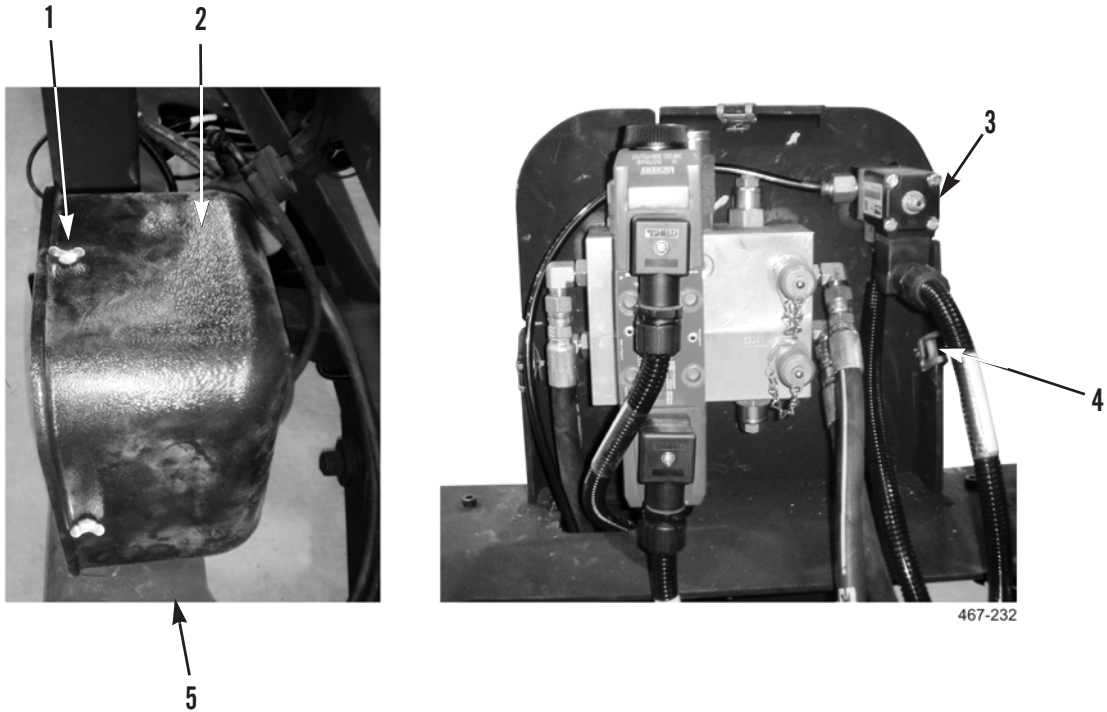

Figure 8. Latch Actuator Hose Installation on Solenoid.
5. Install latch actuator hose (Figure 8, Item 4) on solenoid valve (Figure 8, Item 3).
6. Install solenoid cover (Figure 8, Item 2) on stowage assembly (Figure 8, Item 5) and tighten three locking screws (Figure 8, Item 1).